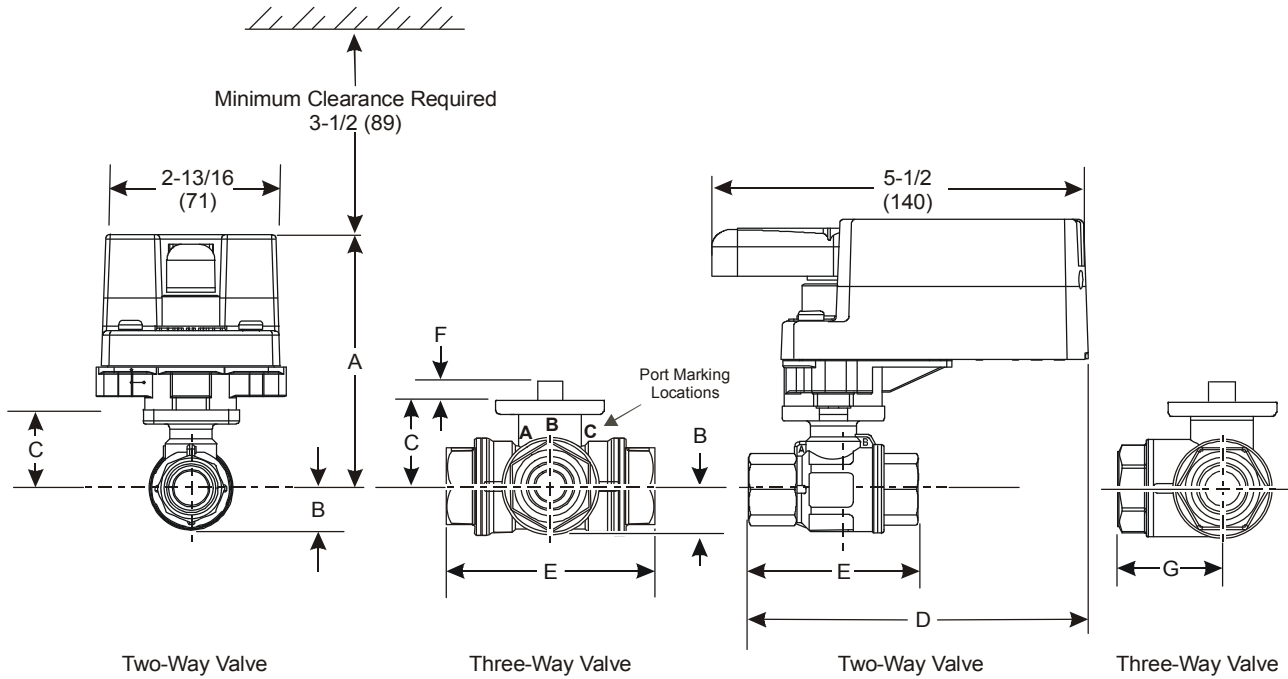

Figure 2: Non-Spring Return VA(M)24-35 Actuated ST2 Series Ball Valve with linkage - in.(mm)
See Figure 2 for dimensions of the Non-Spring Return VA(M)24-35 Actuated ST2 Series Ball Valve with linkage
1. Port A must always be connected to the coil (Figure 2).